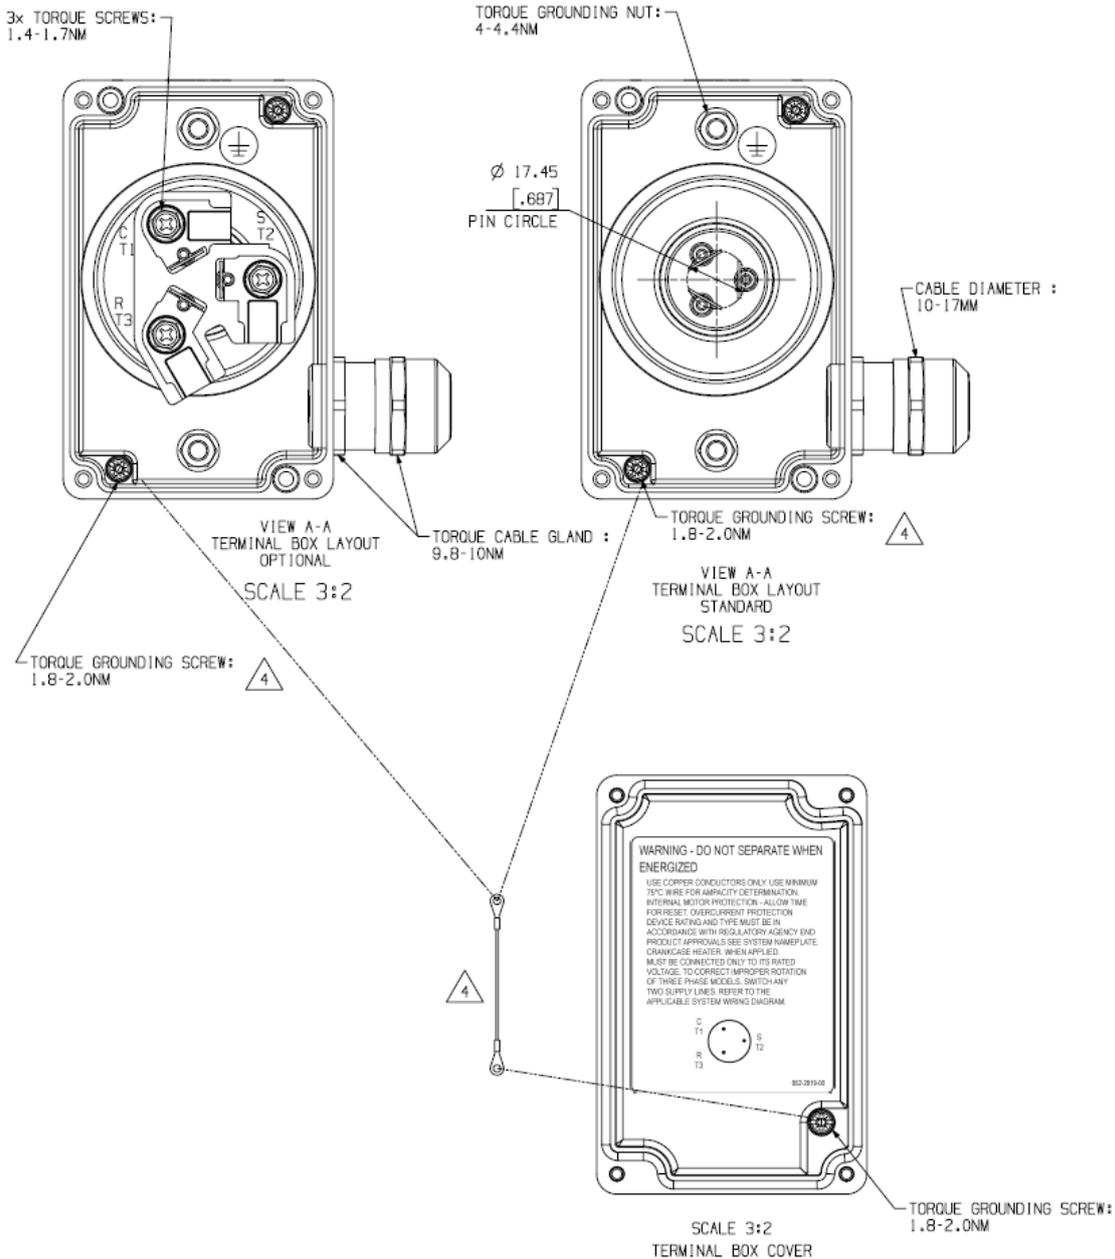

Figure 10: Cable gland torque and diameter and electrical connections torque
Make sure to assemble the cable gland M25 with a torque of 9.8-10 Nm. The cable gland is designed for cable diameters of 10 to 17 mm (see **Figure 10**). The degree of protection (IP) will be safeguarded only if sealing and cable glands are properly assembled. Only run the compressor with permanently wired cables. The system manufacturer/installer shall provide the required strain relief.